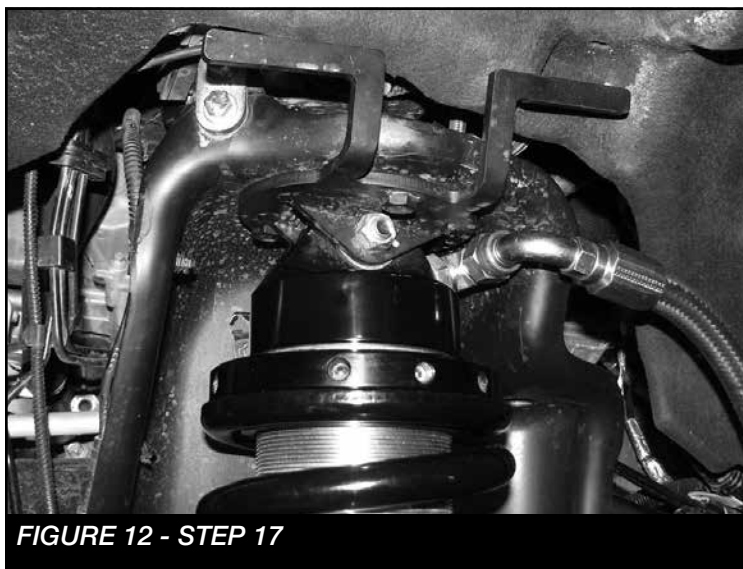

FIGURE 12 - STEP 17
17. Install the driver side coilover mount using the supplied 7/16" nuts and washers for the upper mount and the 5/8" hardware with two FT83475 (Misalignments) at the lower mount. Torque 7/16" to 83 ft-lbs and 5/8" 254 ft-lbs. SEE FIGURE 12